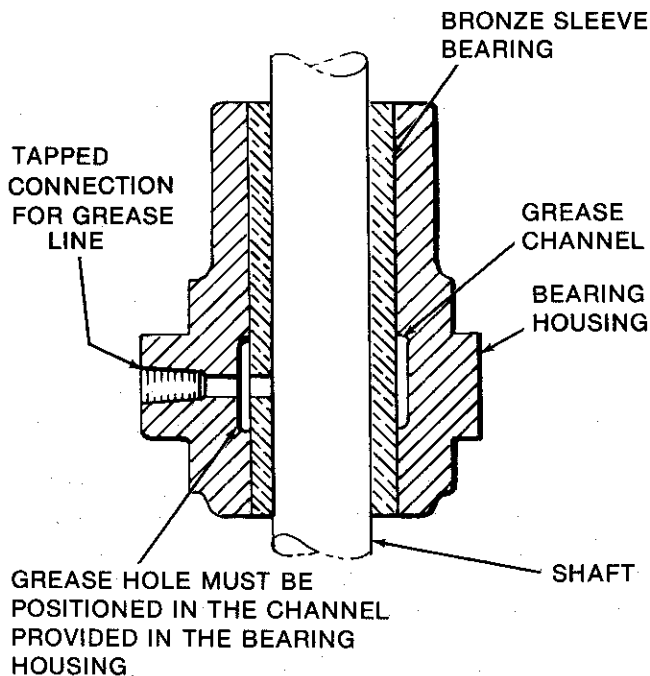

Figure 8. Installation of Sleeve Bearing for all LM, LL and OM Models
18. To remove sleeve bearings (45, 49) from bearing housing (46), or discharge casing adapter (48) or from lower bearing housing (48, figure 6), remove both cup point set screws (47) (see figure 8). (Set screws are not used in NS and LMB model pumps.) Using a drift, drive bearing from its housing.
3. Align flat on bearing with threaded set screw hole in bearing housing (see figure 8).